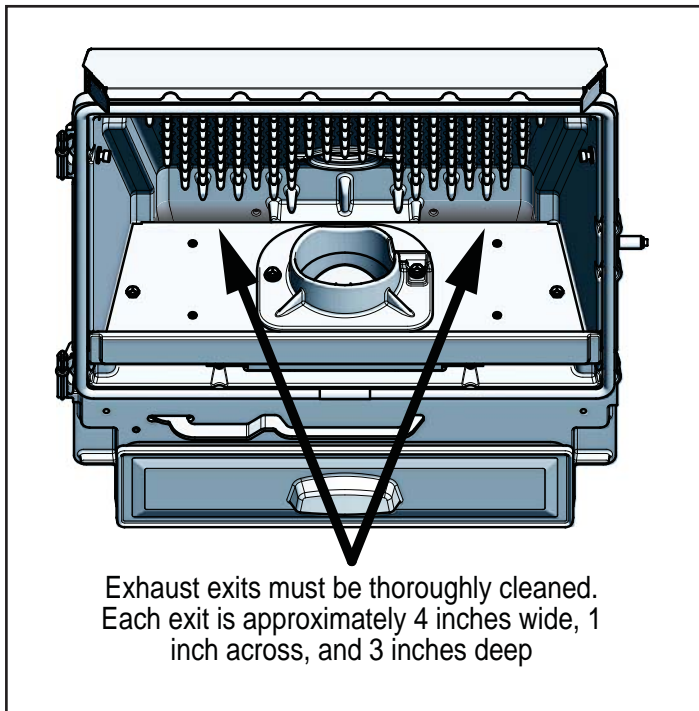

Figure 18.1
- Use the crevice tool to finish cleaning the heat exchanger fins. It is critical that the 2 exhaust exits at the back of the firebox floor (left and right) be thoroughly cleaned. **Figure 18.1** There are several ways this can be done: